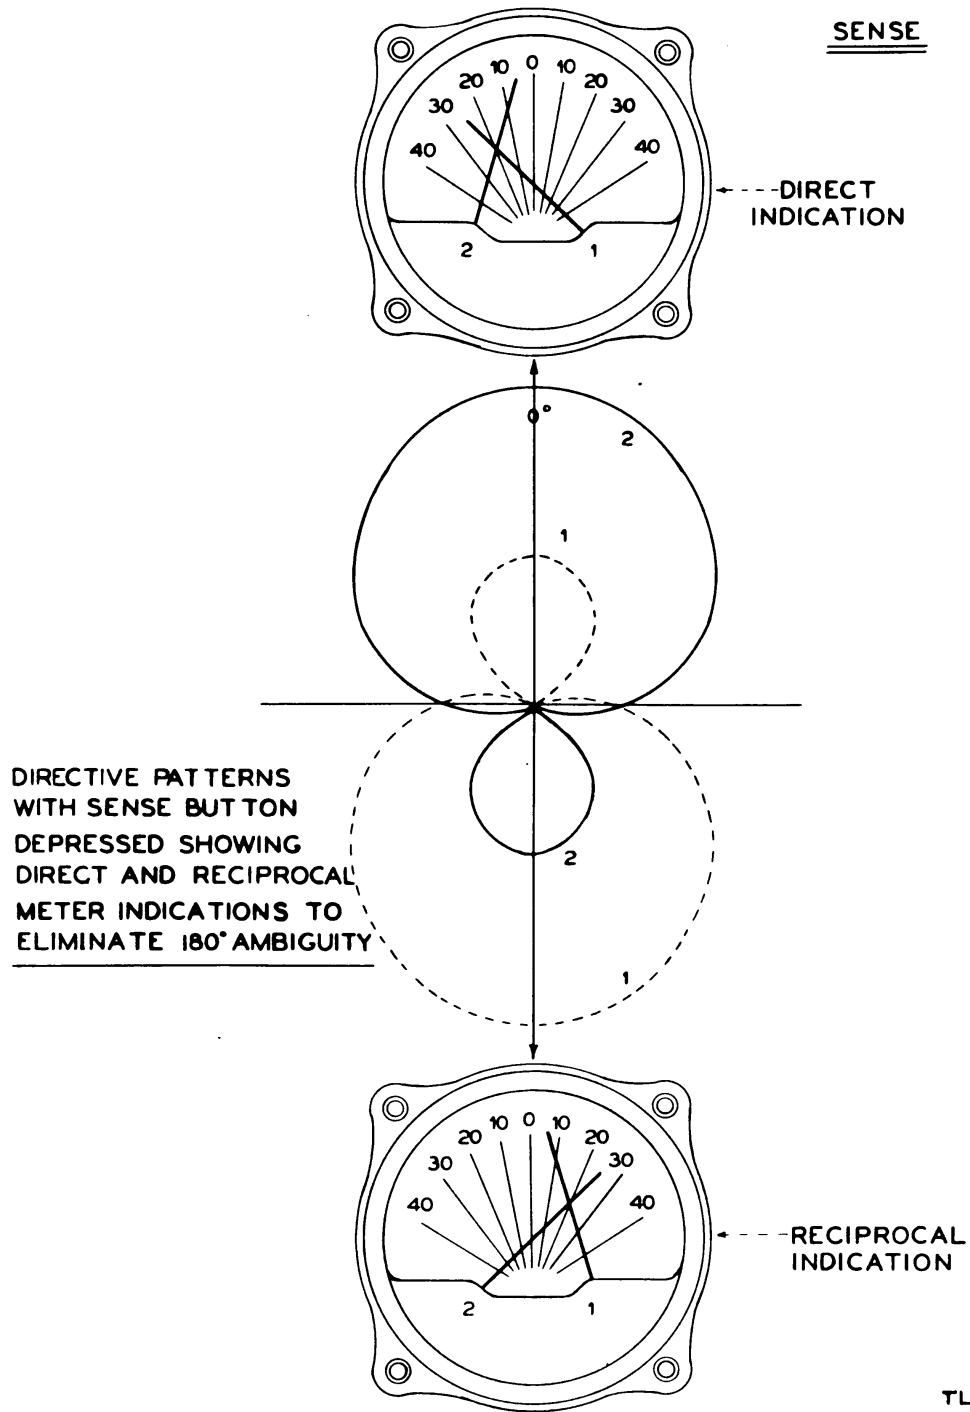

Figure 21. Crossed pointer sense indications.
d. Under these conditions, the signal current due to the antenna flows through each loop. It produces a different effect in each loop, as shown by the arrows on the equivalent circuit diagram. The heavier arrows are for the signal current due to the antenna and the lighter arrows for the signal currents due to each loop. As shown, the antenna current opposes current of loop No. 1, producing a subtractive effect, and causing the DIRECTION INDICATOR pointer of this circuit to decrease its reading. In the circuit of loop No. 2, the antenna current aids the loop current, producing an additive effect which causes the other DIRECTION INDICATOR pointer to increase its reading. As a result, the intersection of the indicator pointers moves to the left indicating that the sense of the azimuth is direct (fig. 21). If the azimuth had been reciprocal, a similar analysis would show that the aiding and opposing action of the antenna current would occur in the opposite coils, and would, therefore, produce a crossed pointer movement to the right instead.